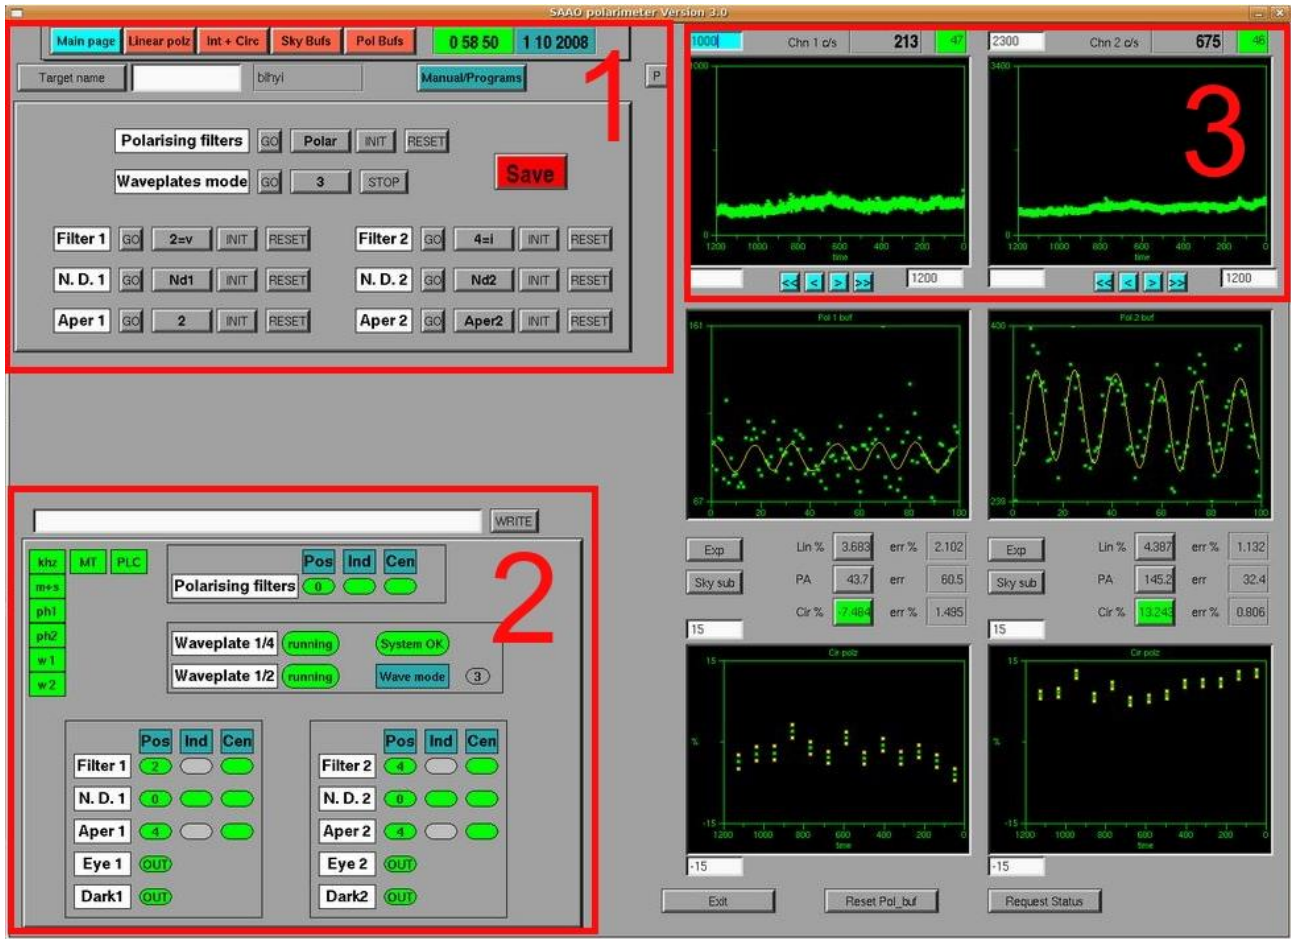

Figure 4: Instrument Control GUI Main page
5. After starting the polarimeter software the following GUI is displayed on the screen. The instrument checkout procedure will focus on the Main page – see panels 1 (controls), 2 (status) and 3 (photometer counts), shown Figure 4 below.
Locate the status indicators on the control GUI (Panel 3 in Figure 4). Note the following: